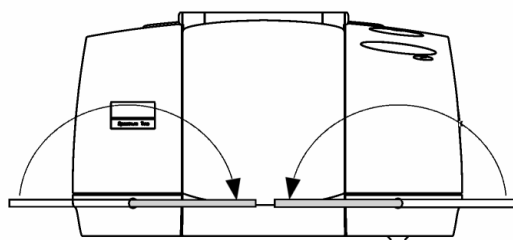

Figure 32 Undoing the locking bolts
6. Undo the two locking bolts (Figure 32) on the front of the instrument using the hexagonal wrench supplied; insert the wrench, so that the free end is pointing horizontally away from the instrument and rotate the wrench 180° in the direction indicated by the arrows in the figure.
11. Lock the two locking bolts by inserting the wrench into each bolt in turn and rotating it opposite to the direction indicated by the arrows, in Figure 32.